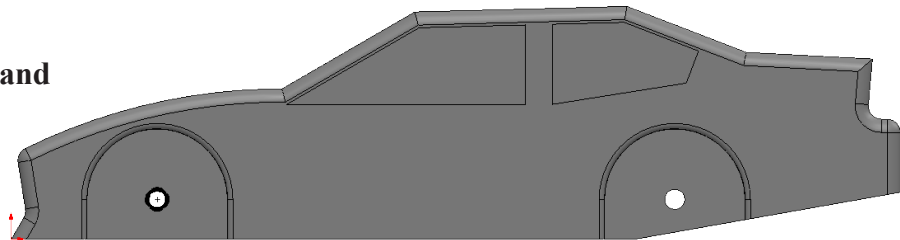

Fig. 76
Step 6. Draw a **Point** below **front axle hole**, **Fig. 76**. Be careful not to draw any extra Points.